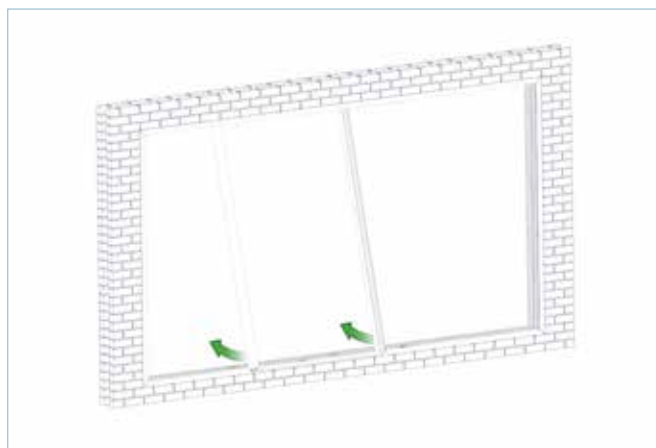

FIG 17
- b. Swing the bottom in and lower, so that the wheels of the roller engage on to its runner (FIG 17)